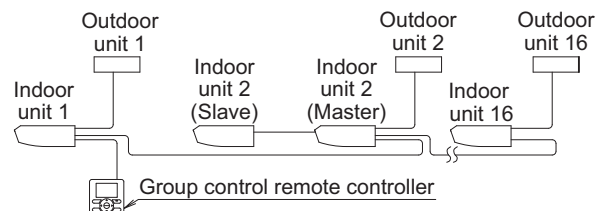

Fig. 34
- When using as a pair unit or as a master unit for simultaneous operation system, you may carry out simultaneous start/stop (group) control up to 16 units with the remote controller. (Refer to Fig. 34)
- (2) Connect crossover wiring between the terminals (P1, P2) inside the control box for the remote controller. (There is no polarity.) (Refer to Fig. 34 and Table 3)